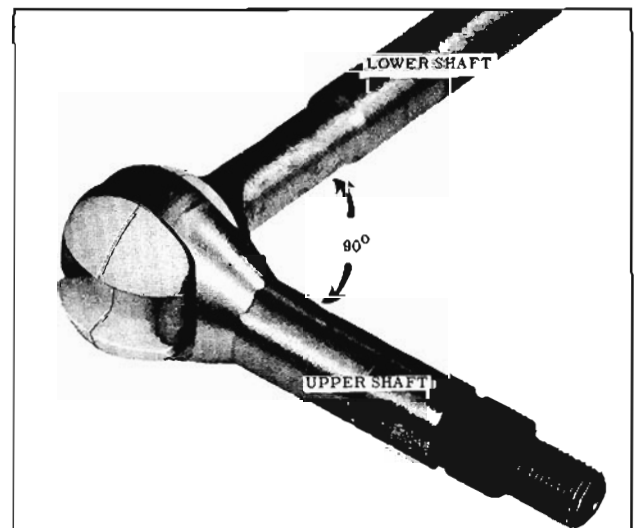

Fig. 8-103 Removing Sphere and Upper Shaft
7. Turn the upper shaft 90° from the center line of the lower shaft and remove the upper shaft and sphere from the lower shaft. (Fig. 8-103)